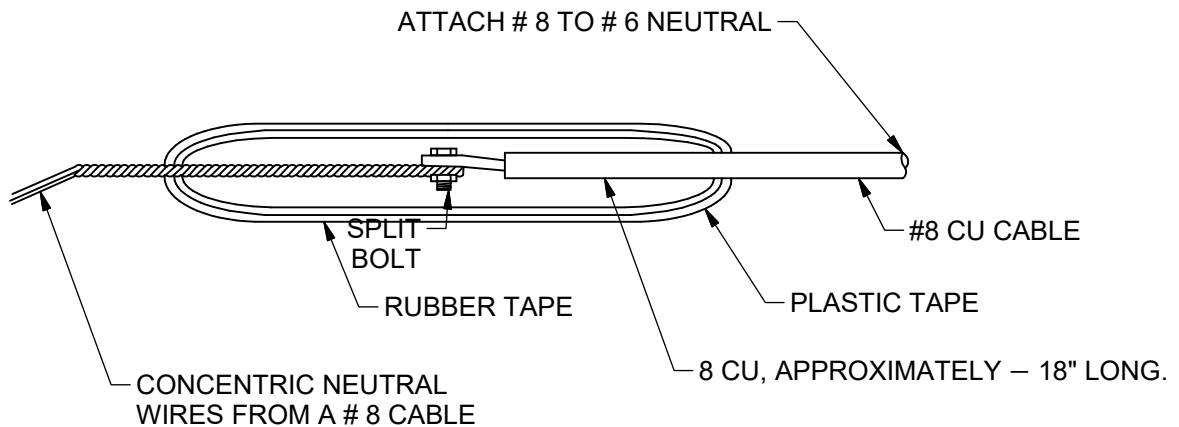

FIGURE 7
- c. Attach the other end of the short piece of #8 cable to the #6 neutral cable. This connection shall be made according to the instructions shown above. The #6 neutral will be identified by yellow insulation, yellow stripes, or ribs. See Figure 7.